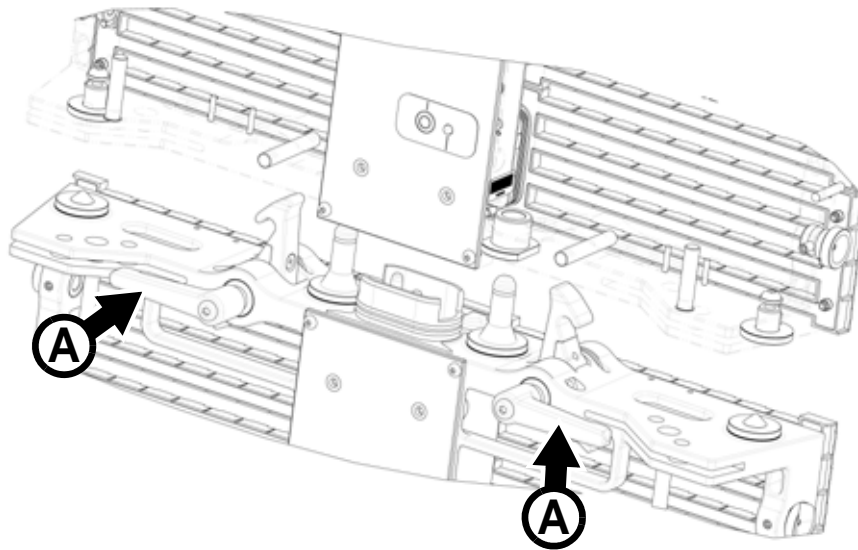

Figure 8: Locking handles before installation (cutaway view)
2. Check that the locking handles **A** are in the fully open position as shown in Figure 8.
- Continue hanging panels, removing rubber connector covers, inserting connectors and fastening the top of each panel to the bottom of the panel above as shown in Figure 8. Up to a maximum of sixteen panels in total may be suspended from one Header.